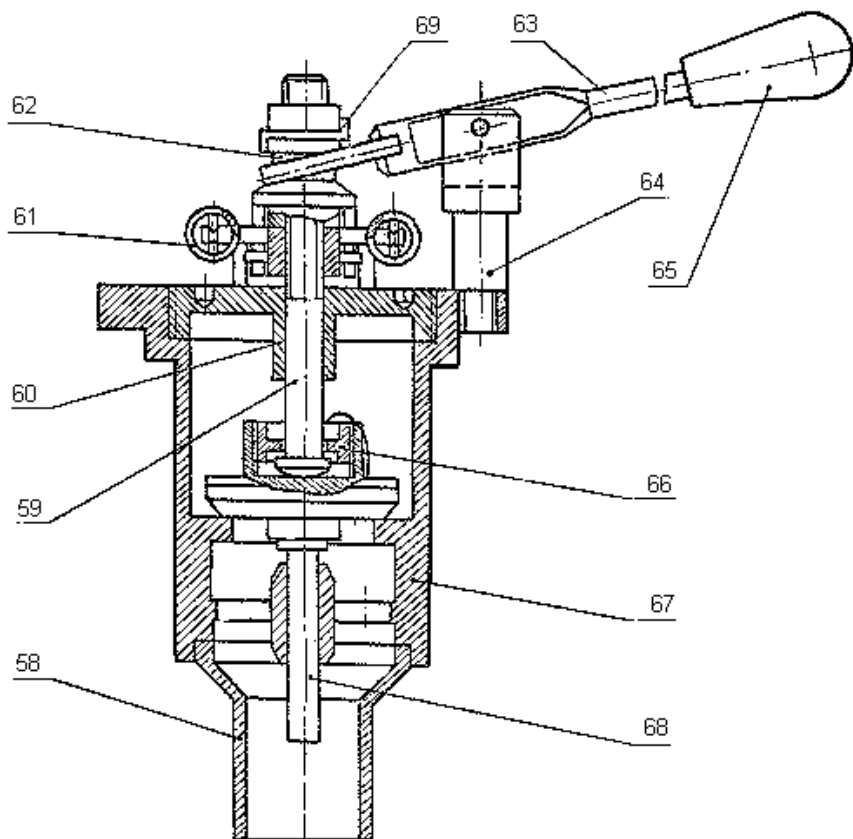

Fig. 8. Valve
3.3.4 The valve (Fig. 8) cuts off the ejector from a system being tested and makes it airtight during measurements being performed by pressure gauge-flowmeter.